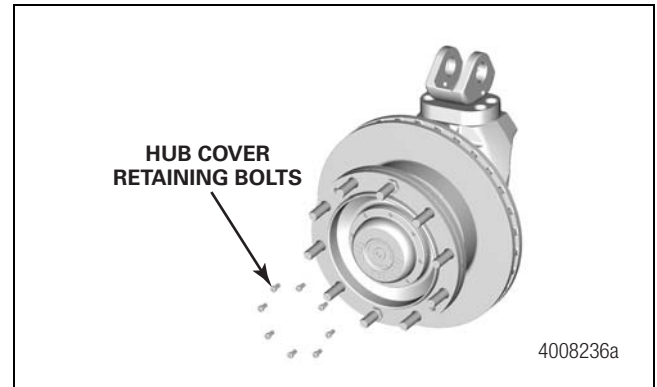

Figure 6.1
3. Remove the hub cover retaining bolts. Figure 6.1.